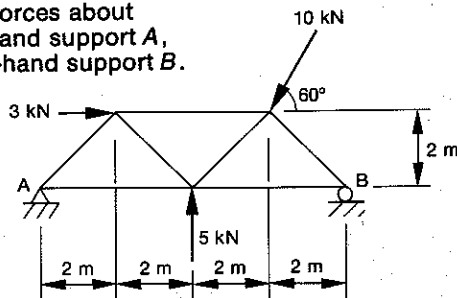

Fig. 5.9
- 5.5 The truss shown in Figure 5.9 is subjected to three loads as indicated. Determine the total moment due to the applied forces about